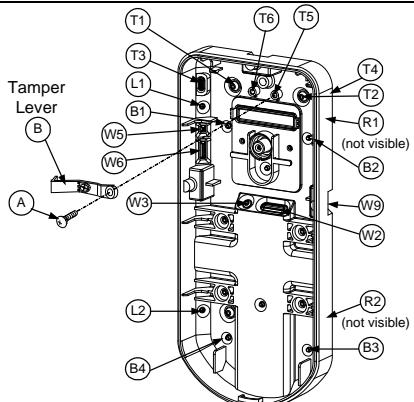

Figure 3
Open knockouts on external base (Figure 3).
- Open knockouts on external base (Figure 3)
- Insert Tamper lever B onto T5 and T3 and secure screw A (Figure 3).
- Insert external wires through external base W2, W3 (Flat Mounting) or W5, W6 (Left side mounting) (Figure 3).
Aprire i fori a sfondare della base esterna (fig. 3)
a. Aprire i fori a sfondare della base esterna (fig. 3)